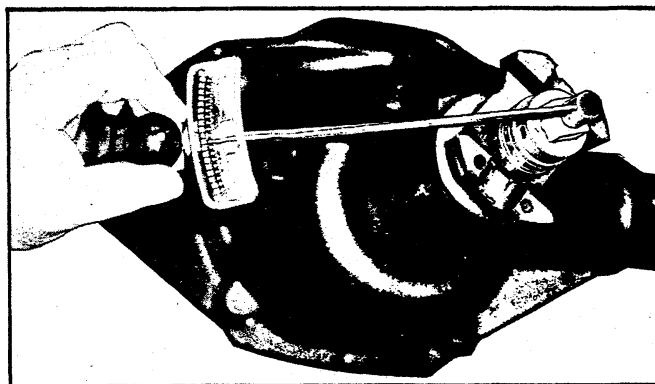

Fig. 82—Measuring Drive Pinion Bearing Preload
4. Using Tool J-5853 with Adapter J-5810 and a suitable socket on the pinion flange nut, rotate the pinion through several complete revolutions and record the torque required to keep the pinion turning (fig. 82). If flange is to be reused, mark pinion and flange for reassembly in the same relative position.